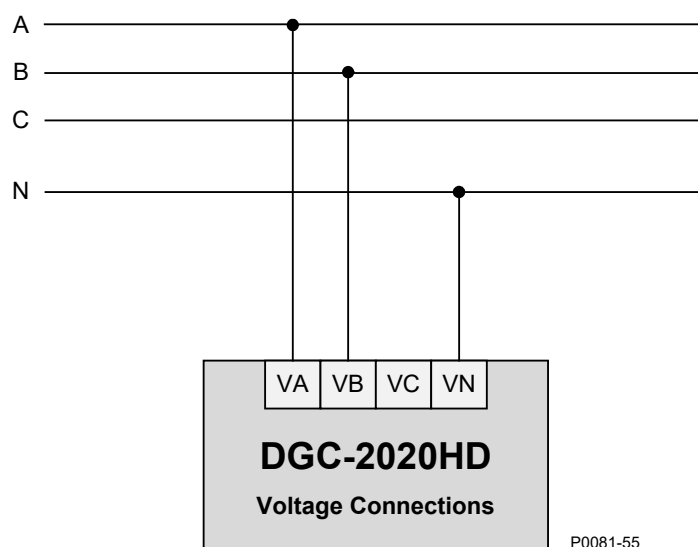

Figure 3-4. Single-Phase A-B Connections
- Single-phase A-B Figure 3-4
Figure 3-4 illustrates typical single-phase A-B connections for all DGC-2020HD bus voltage sensing connections: Generator, Bus 1, and Bus 2. Use the terminal numbers listed below for connecting the desired bus type. Refer to the *Terminals and Connectors* chapter for rear panel terminal numbering.